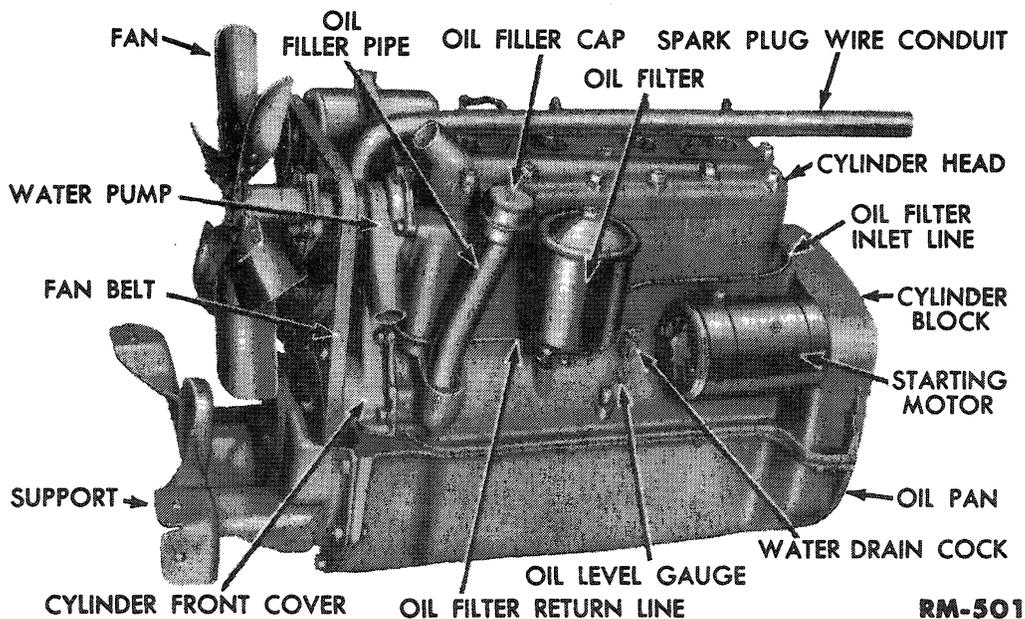

Fig. 1—Left $\frac{3}{4}$ Front View of Engine
The Ford 4-cylinder engine (figs. 1 and 2) is of the L-head type, having all cylinders and the upper half of the crankcase cast in one piece. Steel cylinder sleeves are used, which are easily replaced when rebuilding the engine. The distributor is driven directly from the front end of the camshaft.
b. Remove Oil Filter. Disconnect the oil inlet line at the cylinder block. Disconnect the oil return line from the governor. Remove the two cap screws that secure the oil filter bracket to the cylinder head. Remove the oil filter and lines (fig. 1).
e. Remove Starting Motor. Loosen the two starting motor cap screws until the starting motor is free of the clutch housing. Lift the starting motor from the engine (fig. 1).
block might be cracked and should be checked thoroughly. Replace the cylinder block if it is cracked. Replace any expansion plugs (fig. 1) that are loose.